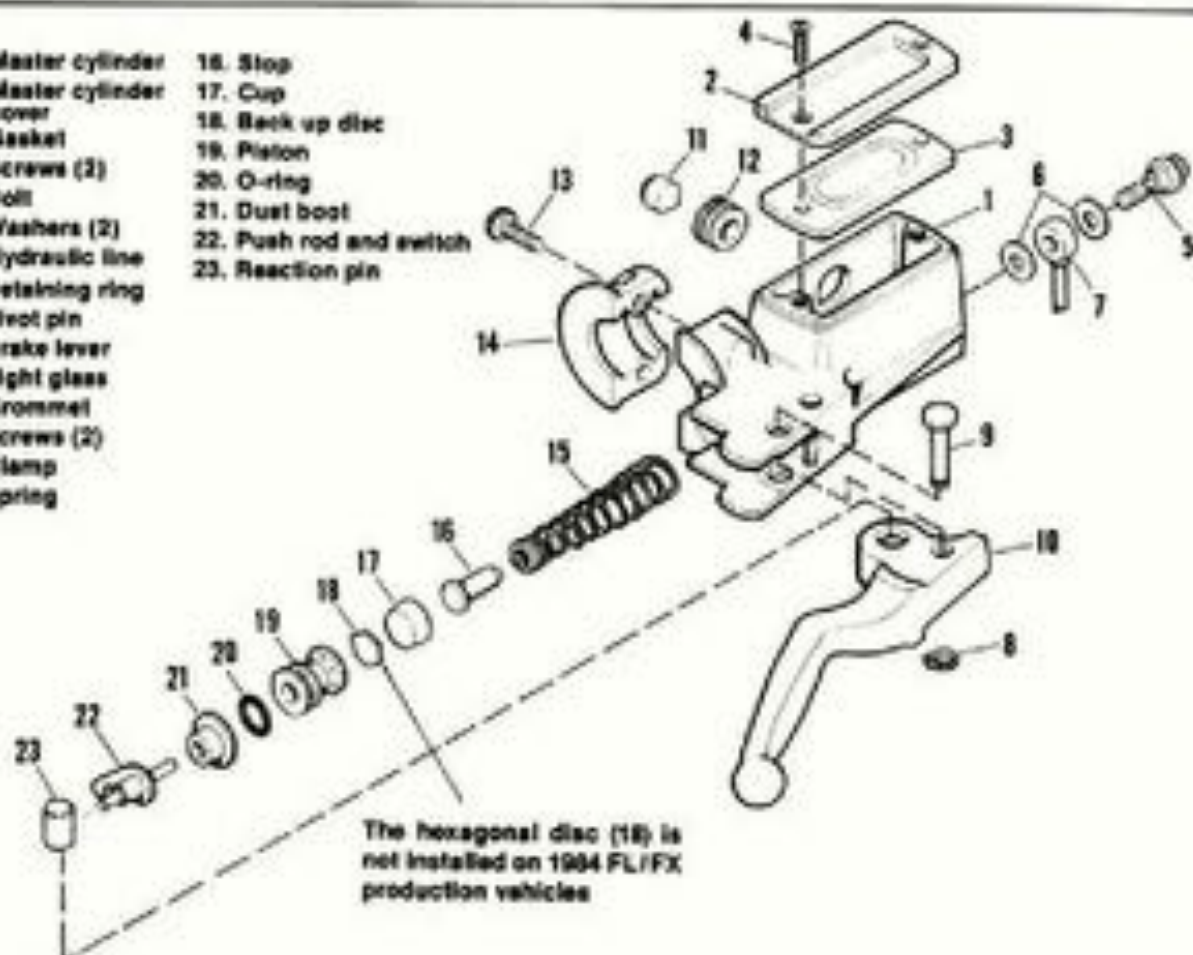

Figure 2-47. Front Master Cylinder — 1982 and Later
### FRONT BRAKE MASTER CYLINDER (1982 AND LATER) (Figure 2-47)
5. Install master cylinder to handlebar by installing clamp (14) and screws (13). Tighten screws to 70-80 in-lbs torque.
6. See Figure 2-47. Install washer (8), bolt (5) and hydraulic brake line (7) into master cylinder. Tighten bolt to 20-25 ft-lbs torque.